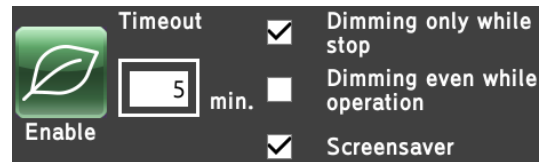

Fig. 2-5-5 (4b) Setting box appearing when dimming backlight mode is enabled
① Detailed settings of dimming backlight mode
- The setting box for dimming backlight mode in Fig. 2-5-5 (4b) appears, and the user-selected time until dimming backlight mode is activated can be set. Pressing [] opens the screen shown in Fig. 2-5-5 (4c) where the wait time until activating dimming backlight mode can be set. Any value from 5 to 99 minutes can be set.
② Operation of dimming backlight mode